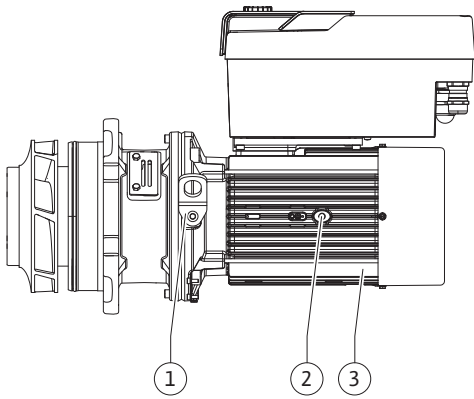

Fig. 100: Motor impeller unit
9. Remove the motor impeller unit (Fig. 100) from the pump housing by loosening the flange screws (Fig. I, Item 29).
16. Insert the motor impeller unit (see Fig. 100) into the pump housing in the old or other desired angular position. Observe permitted installation positions of the components (see section "Permitted installation positions and change of the arrangement of components before installation" [► 21]).